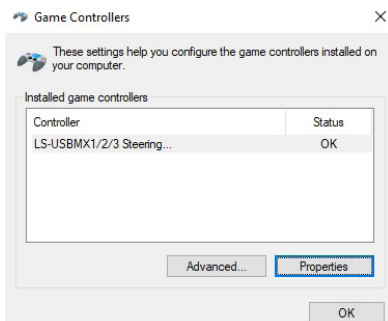
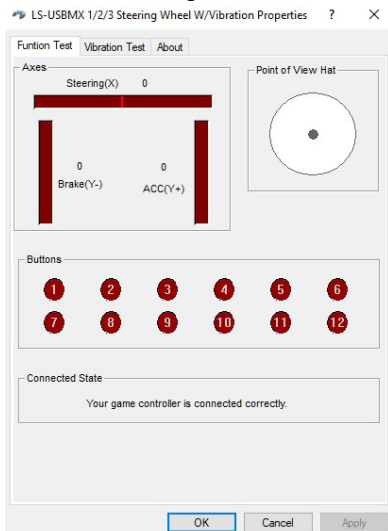
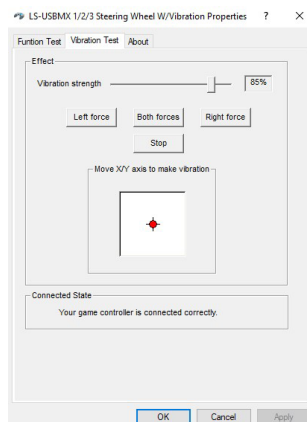

Fig. 5.
Fig. 6.
Fig. 7.
• In «Game devices» window (see Fig. 5) click on the «Properties», button, the «Properties: LS-USBMX 1/2/3 Steering Wheel W/Vibration» window will appear on the PC display (see Fig. 6). Here you can check the operation of the axes and keys, the «Vibration Test» tab allows you to check and adjust vibration feedback (see Fig. 7).